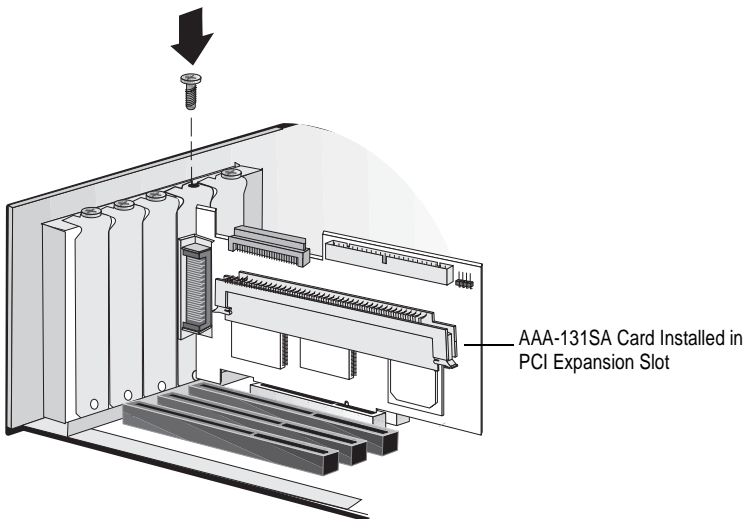

Figure 2-4. Installing an AAA-131SA in PCI Expansion Slot
- 4 Insert the AAA-13xSA RAID card in the PCI expansion slot; press down firmly until it clicks into place, then replace the slot cover screw. (Figure 2-4 shows the installation of an AAA-131SA card.)